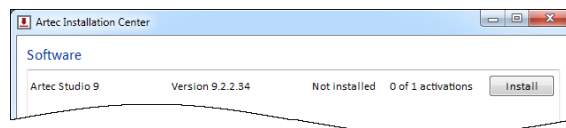

Figure 1.6: *Artec Installation Center* is ready to install *Artec Studio*
- Install it through *Artec Installation Center* (either during *Artec Installation Center* installation or by pressing *Install* as it is shown on figure 1.6);